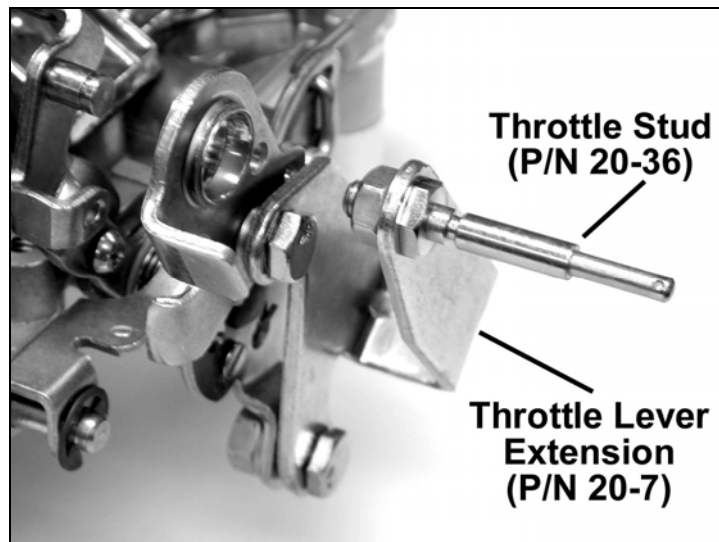

Figure 1—Chrysler applications
1. Unless you are replacing an existing Holley carburetor (which already has a lever extension arm), you may need to purchase and install a throttle lever extension (Holley P/N 20-7) on the carburetor. Remove the throttle stud and nut from the original carburetor. You can purchase a new stud from your Holley dealer (Holley P/N 20-36). Install the stud in the throttle lever extension (Figure 1). See the appropriate service manual for transmission adjustment.